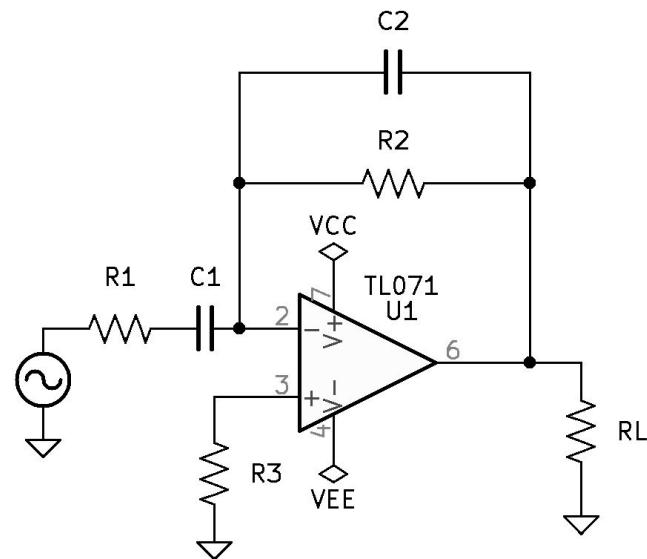

Figure 8.5: Band-Pass First-Order Active Filtering Circuit.
1. See Figure 8.5 *Band-Pass First-Order Active Filtering Circuit* on page 90.